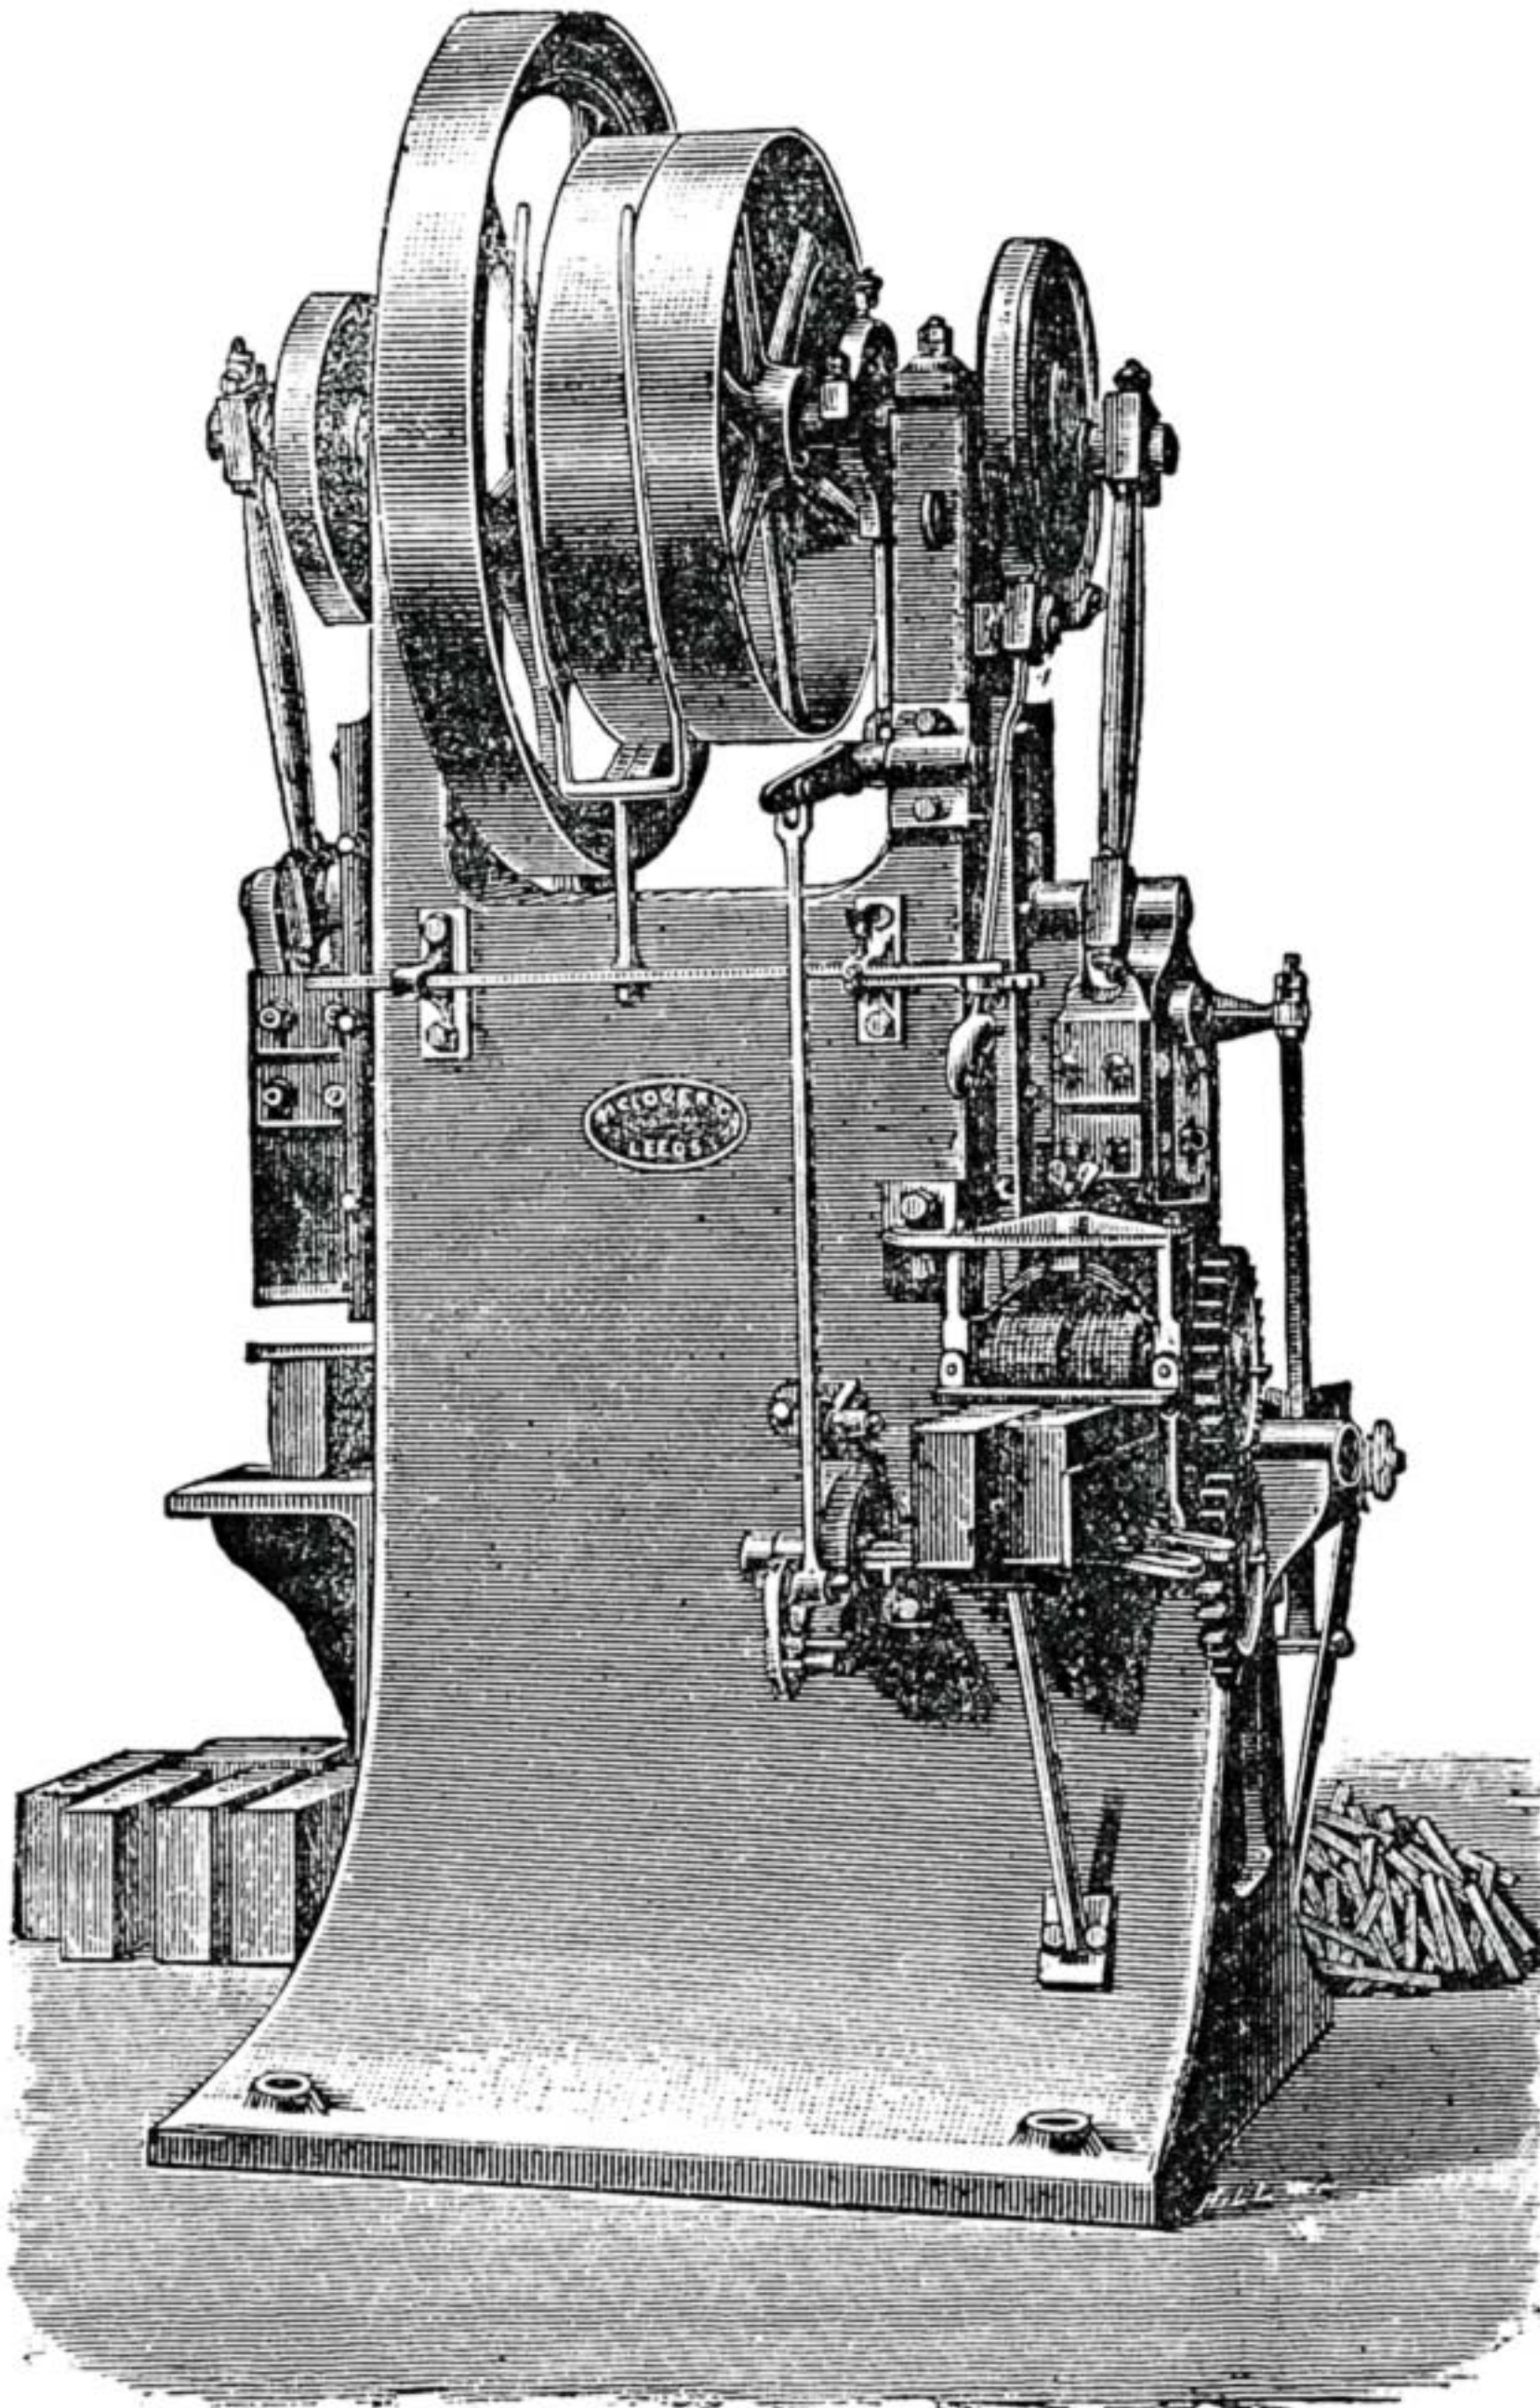
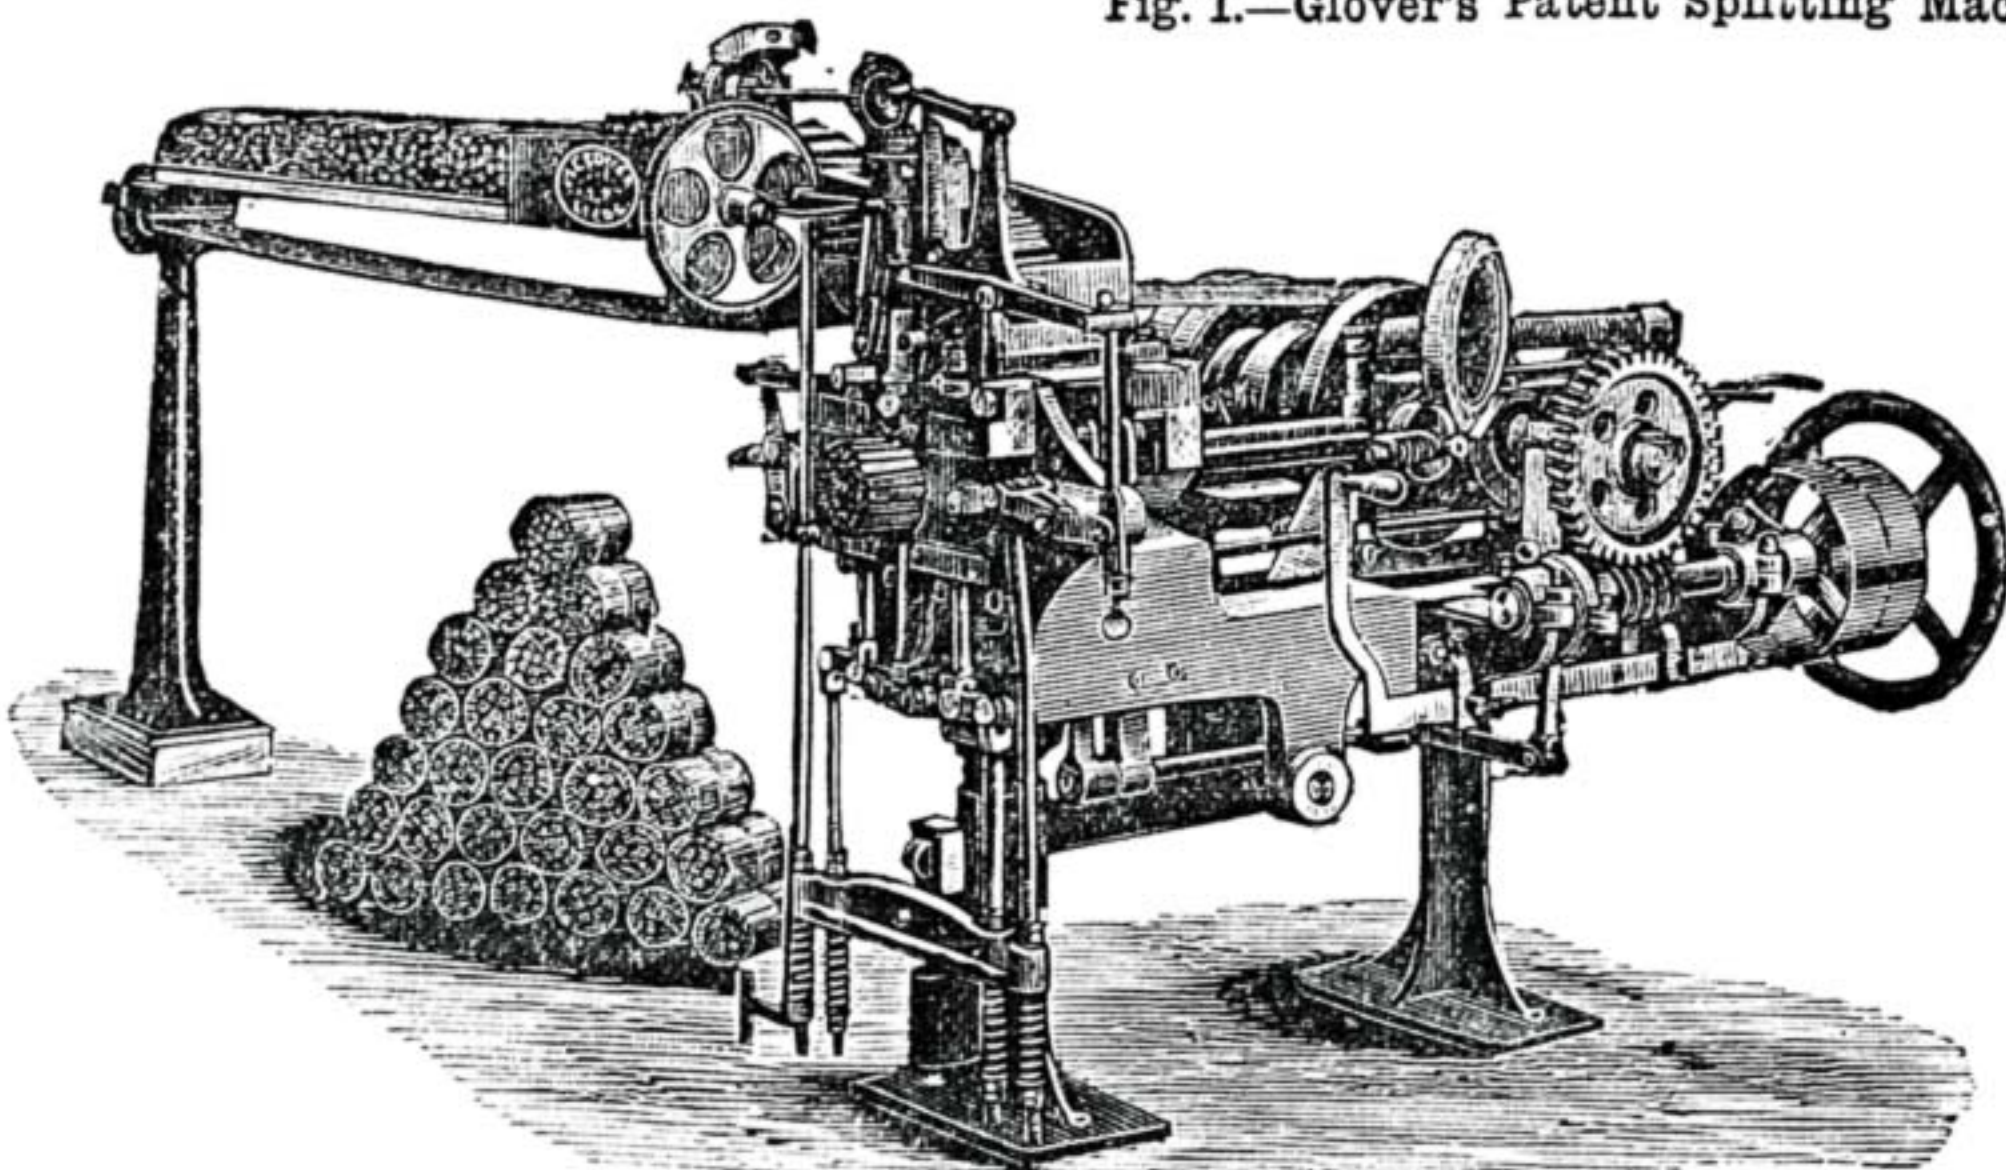
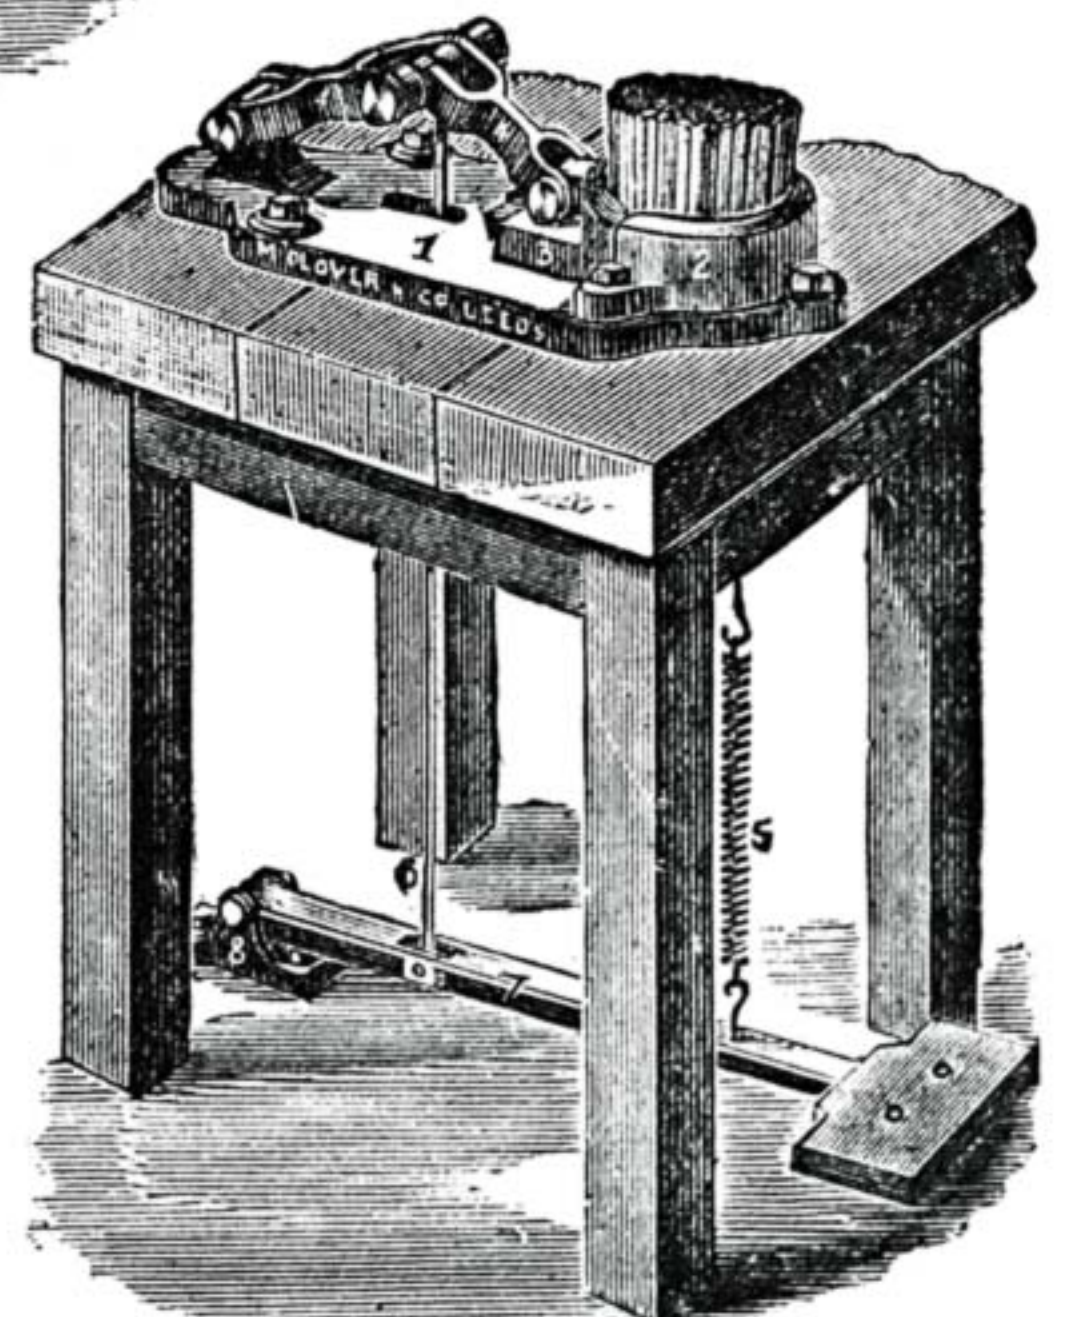

Fig. 1.—Glover's Patent Splitting Machine.
Fig. 2.—Glover's Patent Firewood Bundling Machine.
Fig. 3.—"Excelsior" Patent Firewood Bundler.
In Fig. 1, the Patent Splitting Machine is shown, which is used for dividing the wood into small pieces, instead of the hatchet or chopping
rollers towards the Bundling Machine, shown in Fig. 2, the rollers acting as a kind of sieve through which all dust and dirt that may be adhering to the sticks fall from them. The sticks, as seen on the right of Fig. 1, are placed on a travelling band in the Bundling Machine, and carried into a box, where they are shaken together and gathered and compressed into
round bundles by four formers, the ends having first been brought level by a plunger, which pushes the sticks up to a diaphragm which then withdraws. After compression into bundle form, the mass is forced from the box by another plunger, actuated by a cam, and forced outwards through a tube slightly convergent, and having a spring top in the manner and position shown on the right of Fig. 2. Here they are further tightened up by a band of steel drawn up by strong toggle-joint gearing, and the bundle is then wired by wire held by a clip above, which can be released by a foot lever. The ends of the wire are then twisted by the revolution of the clip, and, the bundle being completed, is pushed out of the machine by the next in order to be wired. Figs. 1 and 2 can be worked separately or in combination. The "Excelsior" Bundling Machine, shown in Fig. 3, is worked by the foot, and is intended for smaller requirements. The lever (7), fixed at the further end by the pin (8) on which it moves, acts by means of the vertical rod (6) passing through the bed or plate (1), secured by bolts to the table on which it is placed, and the toggle joints (4) on the sliding jaw (3), which moves into the fixed jaw (2) in front of it. By these jaws the sticks are compressed into bundle form, and are then wired or tied by hand, after which the bundle is released by the spring (5) below the stand. In this machine there is nothing in the form of ropes, chains, etc., that requires renewing, and time is saved in the rapid release of the bundles, which are made round, level at the ends, and of uniform size, by the action of the machine, which makes the work easy to the operator, and obviates the necessity of close supervision.
Circular-Saw Rigs for the Lathe.—A FOREMAN PATTERN MAKER writes:—"As the writer of the article on 'Circular-Saw Rigs for the Lathe,' I have tried to understand the meaning of your correspondent's criticism (G. E., *Camberwell*, p. 78), but in vain. He speaks of 'Fig. 1' as representing 'a superfluous amount of work for small results to an amateur in the screwing or tapping a chuck to obtain a counterpart.' From this I gather that G. E. takes exception to the trouble of cutting the thread in the saw spindle. But the same objection would apply with equal force to the fitting of lathe chucks of any kind. Fig. 3, without the thread, and made square ended for a square hole chuck, and lathe centres, is 'much better adapted,' but 'the square should taper 15°.' Well, I do not attempt to give dimensions, or taper to suit any particular chuck at all, and those who possess square hole chucks can make spindles to suit them. I simply give the general design. Again, 'the saw driven between centres of 60' is the most lasting, and less liable to run out of truth.' I don't see why a chuck like Fig. 1, tapped for the mandrel nose, should run out of truth any more than an ordinary lathe chuck. I know a wood turner who has been using spindles and saws, rigged like Fig. 2, for several years, without their running out of truth. And in the article, I advised steadying one end of the spindle with the poppet centre in cases where the fit of the thread may be imperfect. Besides, your correspondent should remember that a mandrel nose terminates in a collar, which helps to steady the chucks, and minimises the evil due to badly-fitting threads. I do not quite understand why G. E. thinks the table let into the rest socket the best. It certainly has the merit of simplicity, but I prefer Figs. 4 or 7, because they can be fitted with fence."—[The diagrams to which reference is made here will be found in No. 1 of WORK, pages 8 and 9.—ED.]